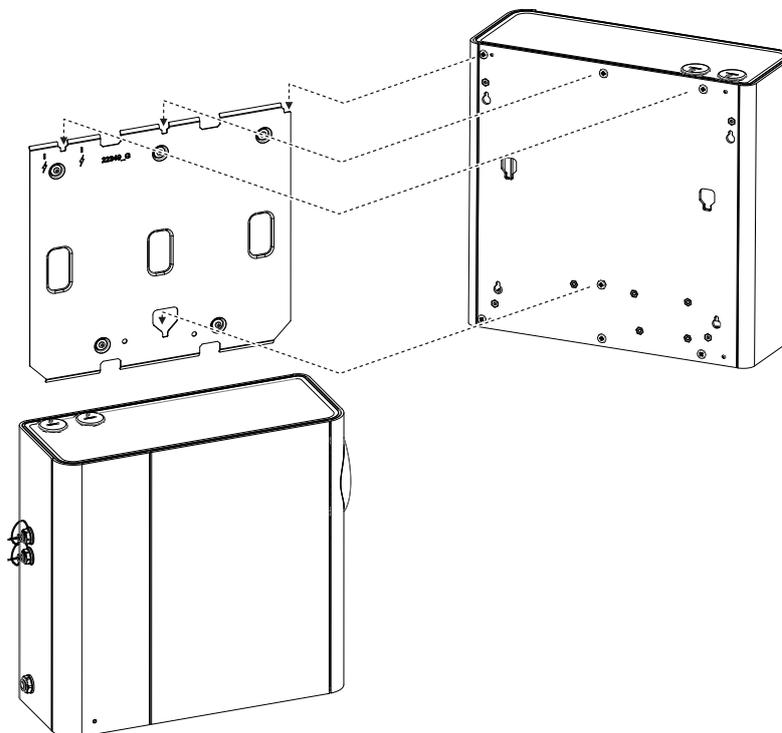

Figure A-8: Fit the Expansion StaX to its mounting bracket
5. Fit the Expansion StaX to its mounting bracket by aligning the four mounting buttons to their respective recesses and sliding the unit into place (Figure A-8). The top of the unit should be aligned with the top of the mounting bracket.